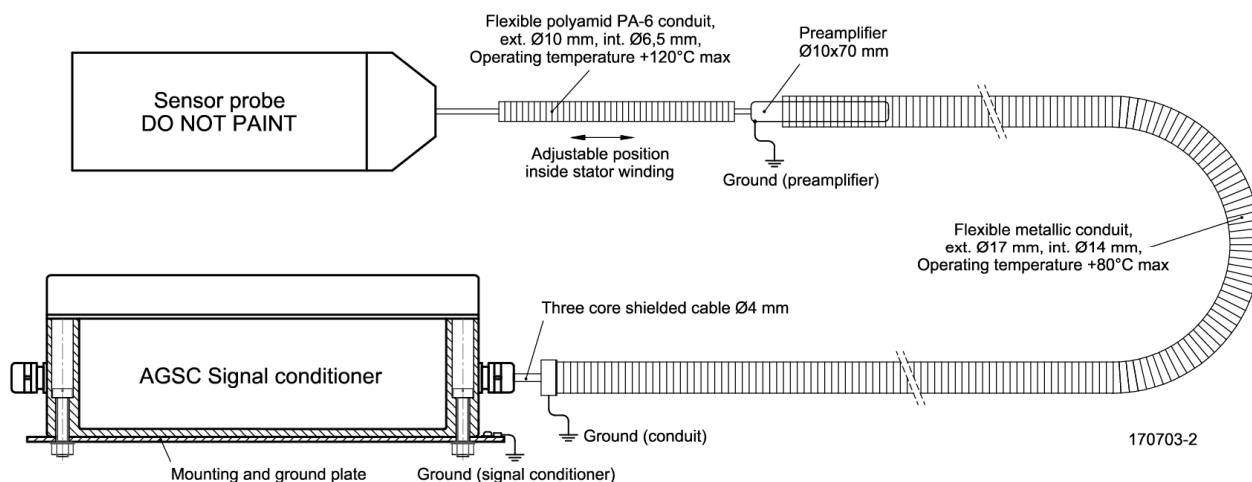

Figure 30. Air Gap Sensor AGS Shielding and grounding (conduit not a part of delivery, to be ordered separately)
CAUTION: *Grounding is essential for system operation integrity as well as for protection against hazardous voltages. For best grounding, provide the shortest path possible between the AGSC signal conditioner unit and the grounded structure. Use flexible steel conduit to protect all cables from electromagnetic fields except inside of stator winding where PVC conduit shall be used. Keep ample distance from nearby power lines (Figure 30).*
WARNING: **BEWARE OF HIGH VOLTAGES ON THE STATOR BARS (5...22 KV). DO NOT ATTACH TRIAXIAL CABLE DIRECTLY TO THE STATOR BARS. THE TRIAXIAL CABLE, PREAMPLIFIER AND MULTICORE SHIELDED CABLE MUST BE PROTECTED BY A FLEXIBLE OR SEMI-RIGID STEEL WITH POLYETHYLENE (PVC) CONDUIT, (Figure 30.)**
7.3.1. **EMC protection with metallic cable conduits are mandatory for AGS installation (Figure 30).**
7.3.2. **Check grounding scheme. Ground loops shall be avoided (Figure 30).**
NOTE: Installations before S/N 144701 will have lower noise level with modification as per Figure 30. Main ground connection is placed at the preamplifier body. Calibration is not affected with this modification.